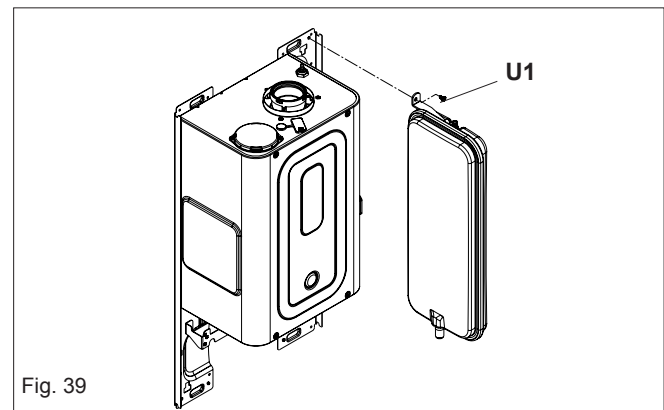

Fig. 39
6.18 EXPANSION VESSEL REMOVAL (fig. 39)